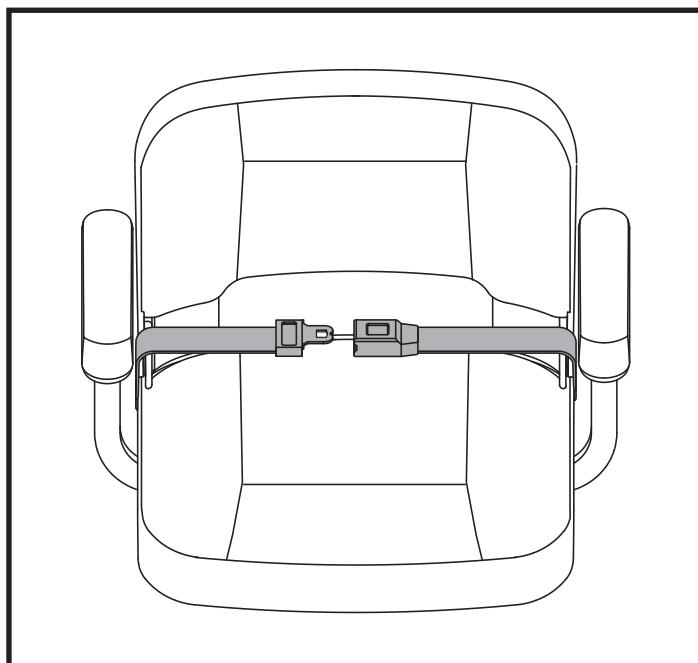

Figure 18. Positioning Belt - Metal Tab Style
1. Insert the metal tab on the right side of the belt into the plastic housing on the opposite strap until you hear a "click." See figure 18.